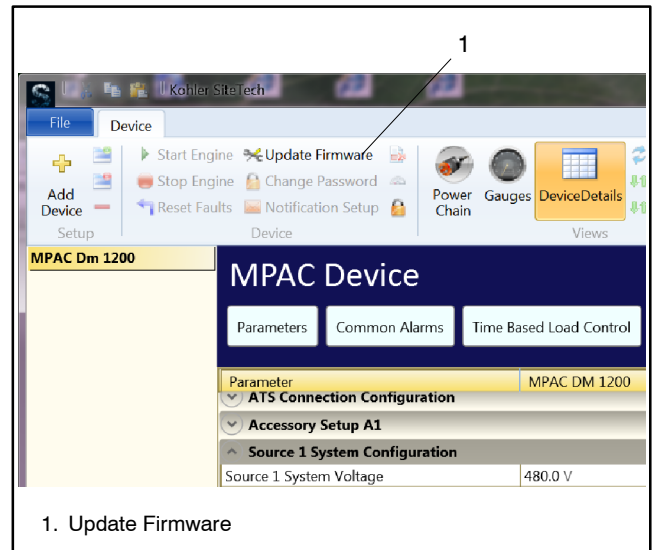

Figure 6-18 SiteTech Update Firmware Command
6. Select UpdateFirmware near the top of the screen. See Figure 6-18.